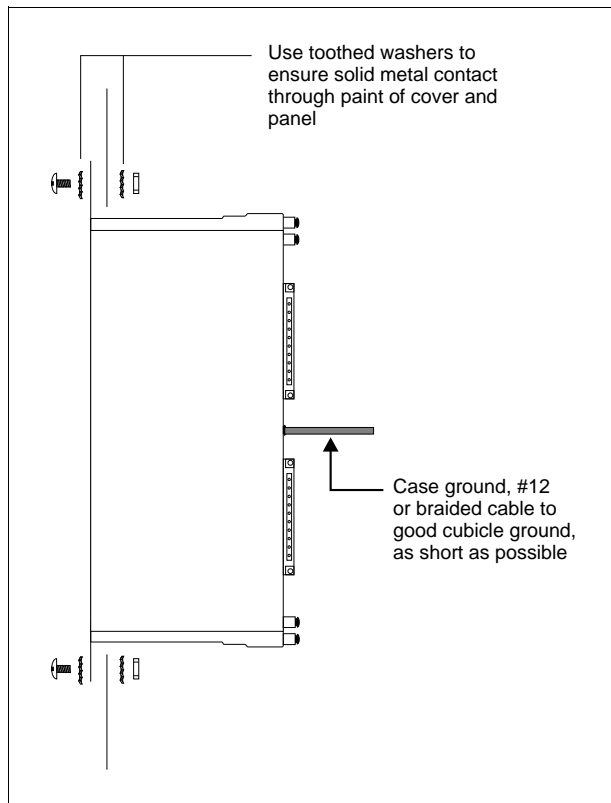

Figure 2.3 Case Grounding
2. Connect the case ground to the terminal lug on the back of the M1-type case as shown in **Figure 2.3**.